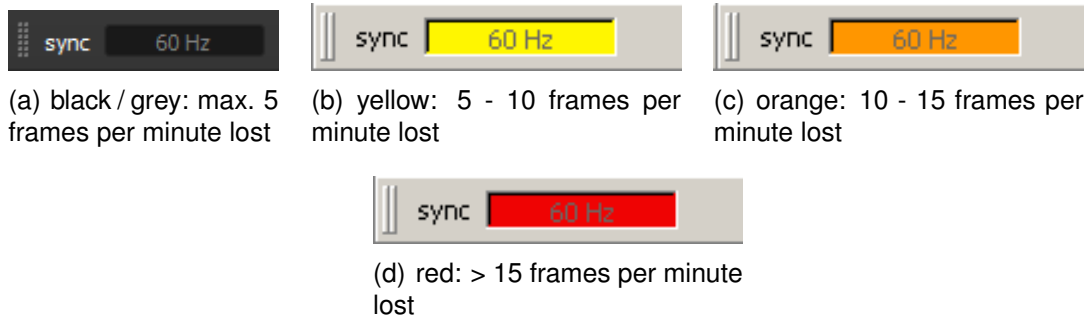

Figure 6.4: **DTRACK3** 3 Sync Status (toolbar element) - Visualization of the decrease in effective synchronization frequency
**Sync Status** The *Sync status* field shows the current tracking frequency in Hz set in *Hardware* → *Synccard* (Note: *Hardware* → *Inertial Sensor* → *Tracking Frequency* when using Hybrid Bodies). The background is changing its colour in case the effective frequency is decreasing due to processing overload (see figure 6.4 on page 44):